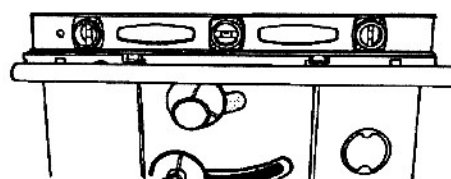

Fig. B-1
1. Move the machine where you will use it most and mark it for future reference. For most accurate results and performance, always operate the unit where it was aligned. If the unit is operated in another location, you must re-check the alignment. Place a carpenter's level along the table's front edge, as shown in Fig. B-1.